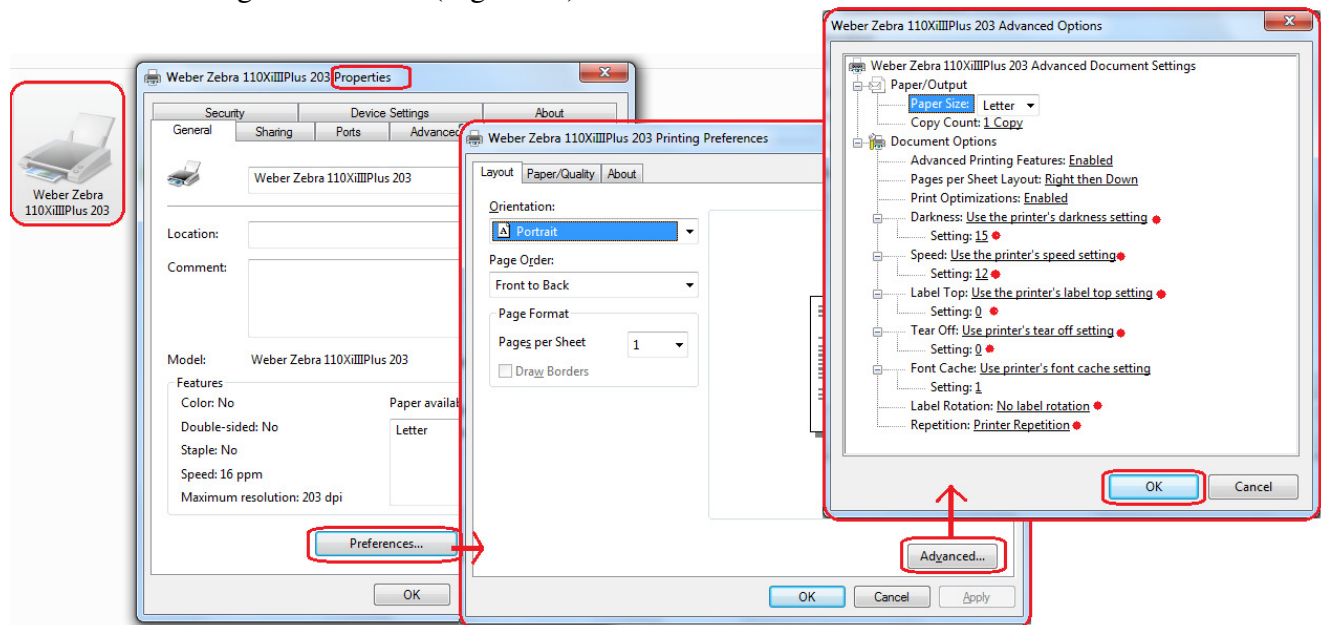

Figure 20
20. **Printer Properties – “General” Tab – “Preferences Button”** takes you to the Printer’s Preferences window and clicking on the “**Advance Button**” will get you to the “**Document Options**” settings for Darkness, Speed, Label Top Adjustment, Tear-off Setting, Print Rotation, and Repetition(printer or computer repetition) settings as shown in (Figure 20) below: